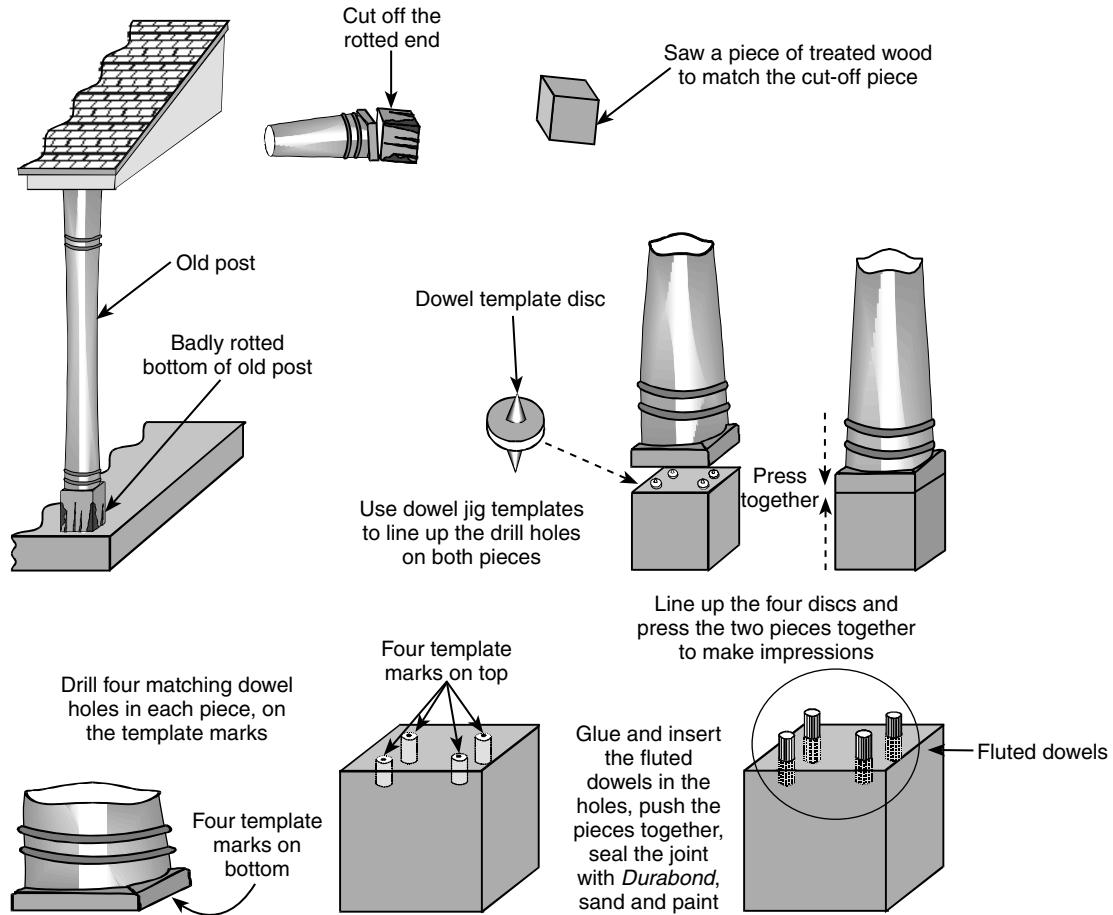

Figure 18-6
I've come across this problem more than once. The best solutions I've found are shown in Figures 18-6 and 18-7. The materials didn't cost much, and the fix-its just took a little carpentry skill.
3. As Figure 18-6 shows, 10 inches had rotted badly at the bottom of the post I was repairing, which happened to be about 6 inches square. I had a short piece of treated
5. You've probably guessed the purpose of the dowel jig templates. You'll use them to make marks to drill holes for dowels in the post and end block you just cut. As Figure 18-6 also shows, these four metal templates go on the top of the block. Lower the end of the post onto the top of the block, carefully lining up the end of the post with the end of the block.